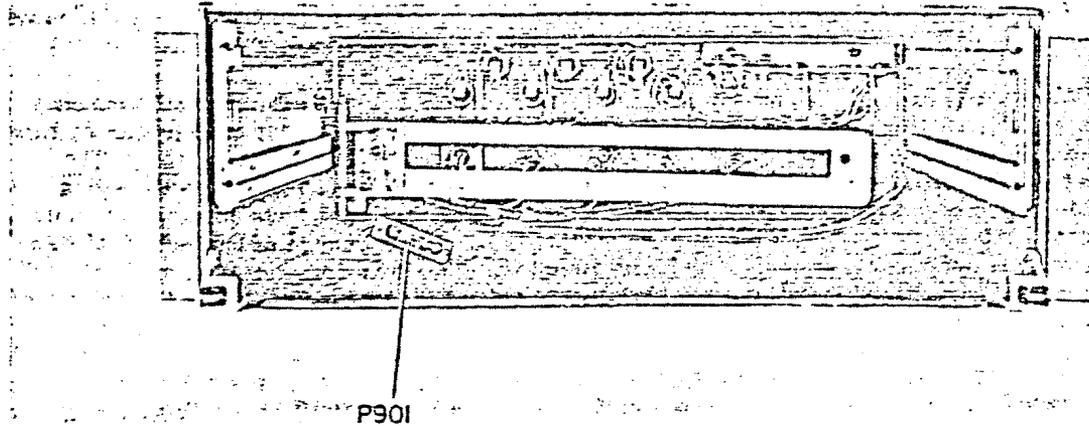

Figure 6-5. Cabinet of Countermeasures Receiver R-1125/FLR
(11) REAR PANEL MAINTENANCE. - The receiver cabinet rear-panel contains the voltage regulating circuits, fuses, and the connectors for external cabling. A cable retracting mechanism for the receiver drawer is located on the rear of the panel (see figure 6-5).